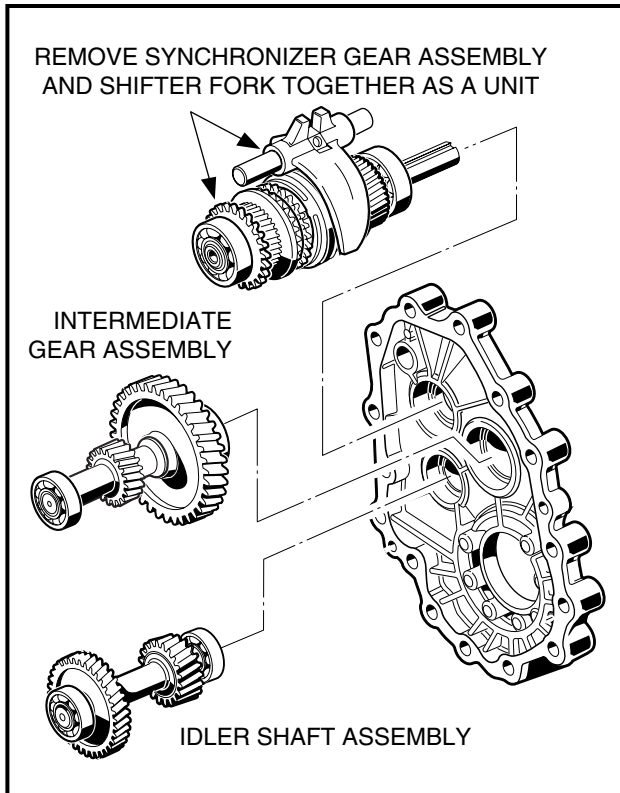

FIGURE 10-39
9. Continue to rock and loosen the remaining gear assemblies until the intermediate gear assembly can be removed from the casing (**Figure 10-39, Page 50**). Then remove the idler shaft assembly.
10. Remove the synchronizer gear assembly and shift fork assembly as a unit from the casing (**Figure 10-39, Page 50**).